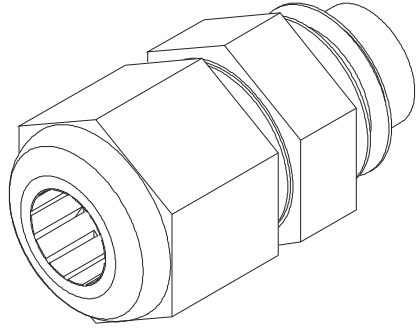

FIG. 19 CABLE GLAND
- Step 4. Loosen the cable gland nut for the load sensor cable you want to remove. (See Fig. 19)